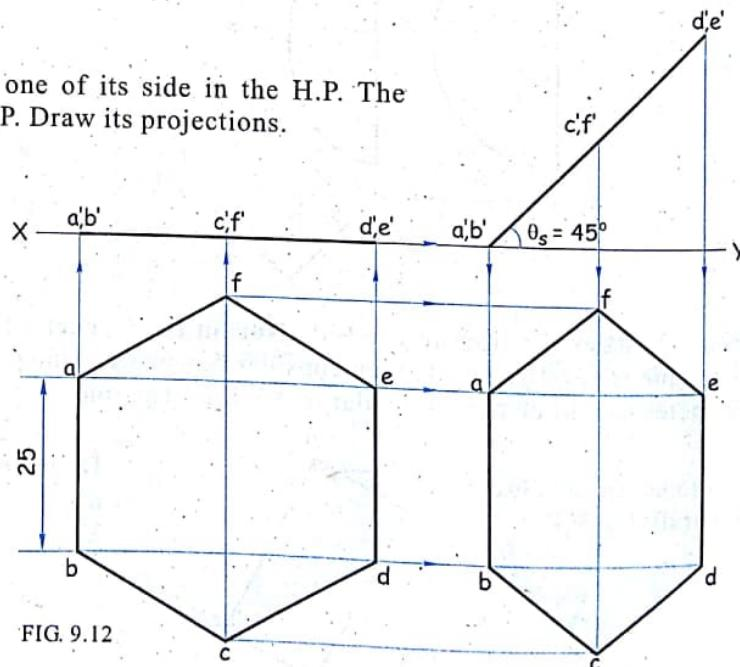

FIG. 9.12
**Solution :** Refer figure 9.12.